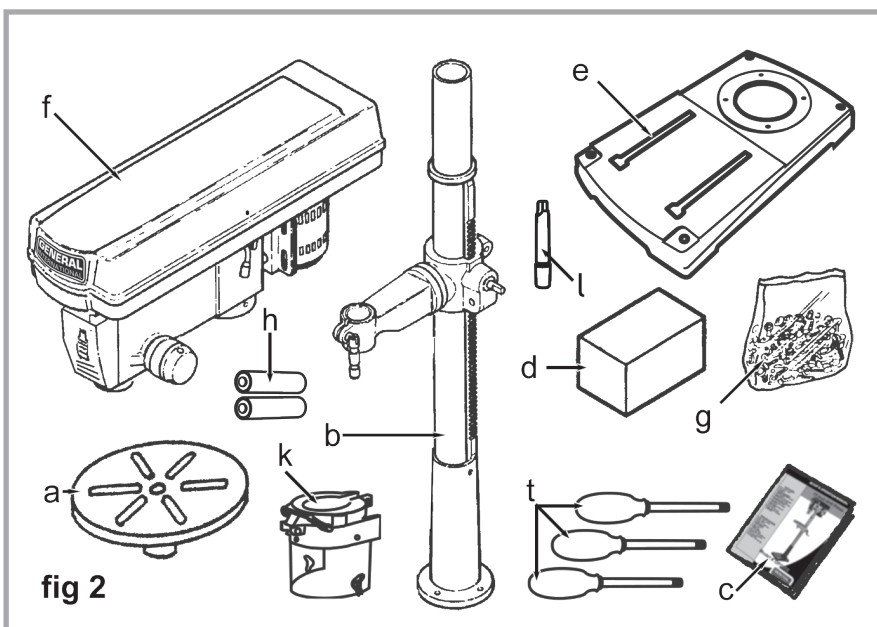

fig 2
Separate all parts from the packing materials and check carefully against fig 2 & 3 and the list below.
1. Lift the drill press head assembly (f, fig 2) carefully and slide the mounting hole of the drill press head over the top of the column. Be sure the head is seated properly on the column.